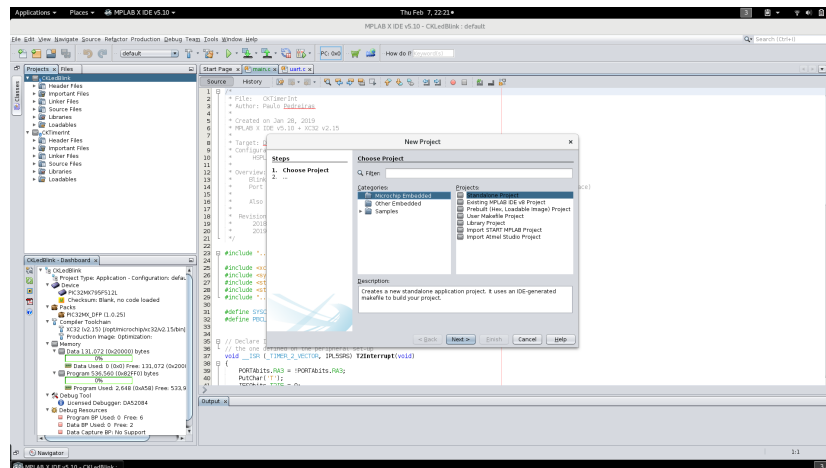

Figure 1: Create the project
3. Select “Microchip Embedded” + “Standalone project” + “Next” (Figure 1)